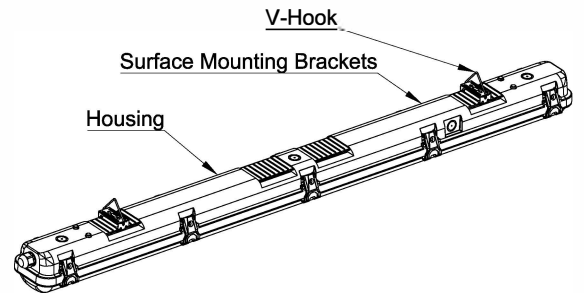

Fig 9
1. Secure Surface Mounting Brackets to Housing as shown in Fig. 9.
2. Loop V-Hook on Surface Mounting Bracket as shown in Fig. 9.
3. To suspend Housing, connect each V-Hook to two equal lengths of chain (not supplied) and/or appropriate hardware (by others) suitable for mounting surface. Chains must be suitable to support four (4) times the weight of the fixture.